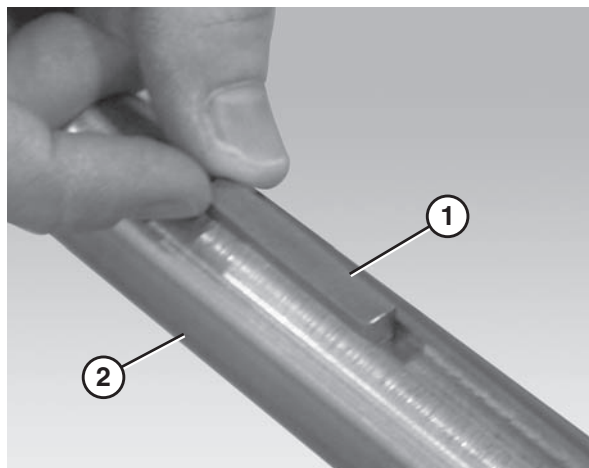

Figure 60
5. Remove the drive spindle key (**Figure 60, item 1**) from the drive spindle keyway (**Figure 60, item 2**).